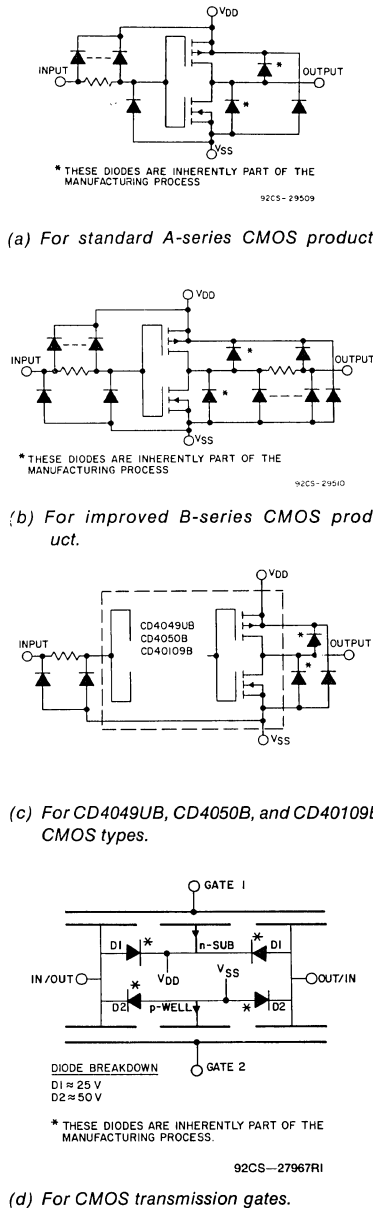

Fig. 3—Gate-oxide protection networks used in RCA CMOS integrated circuits.
A problem occasionally encountered in handling and testing low-power semiconductor devices, including MOS and small-geometry bipolar devices, has been damage to gate oxide and/or p-n junctions. Fig. 3 shows the gate-oxide protection circuits used to protect CMOS devices from static electricity damage. ICAN-6572 gives further information on protection circuits. Although these circuits are included in all CMOS devices, the handling precautions in ICAN-6572 and ICAN-6525 should be observed.
- Remove the device from the test socket and insert it into a conductive carrier. CMOS devices under test must not be exposed to electrostatic discharge or forward biasing of the intrinsic protective diodes shown in Fig. 3.